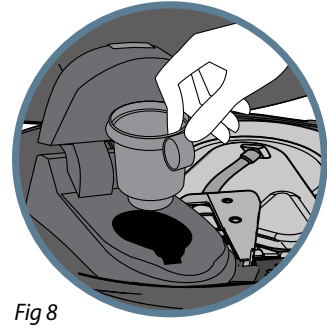

Fig 8
9. Remove the brown K-Cup® pod holder (Fig 8) and machine wash (top rack only).